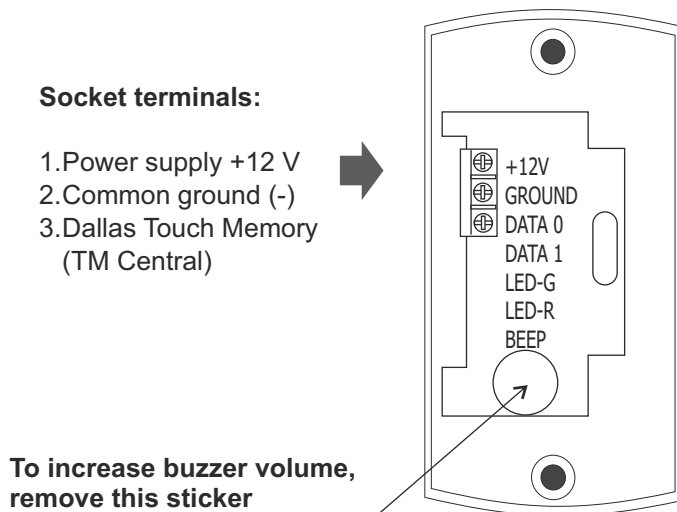

Fig. 4
- Connect wires to the reader socket (Fig. 4);